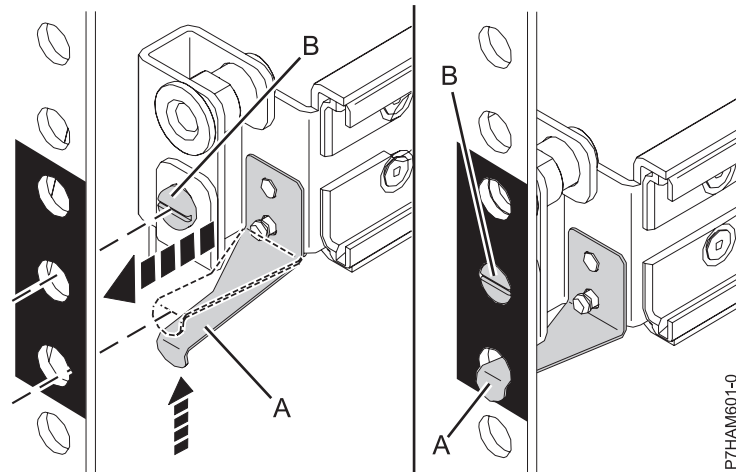

Figure 9. Mounting the rail to the front of the rack
- The tension clip (A) points toward the front of the rack and aligns with the bottom EIA hole that you marked previously, as shown in Figure 9 on page 11.
- c. Bend the tension clip (A) up and insert it into the bottom EIA hole that you marked previously, as shown in Figure 9. Ensure that the lip of the clip is brought fully through the hole and clasped against the bottom of the hole. Seat the alignment screw (B) in the middle EIA hole that you marked previously.
**Note:** There are two sizes of alignment screws (B). If your rack has round mounting holes, use the smaller alignment screw for each rail. If your rack has square mounting holes, use the larger alignment screw for each rail. Alignment screws are provided with the rack installation kit.